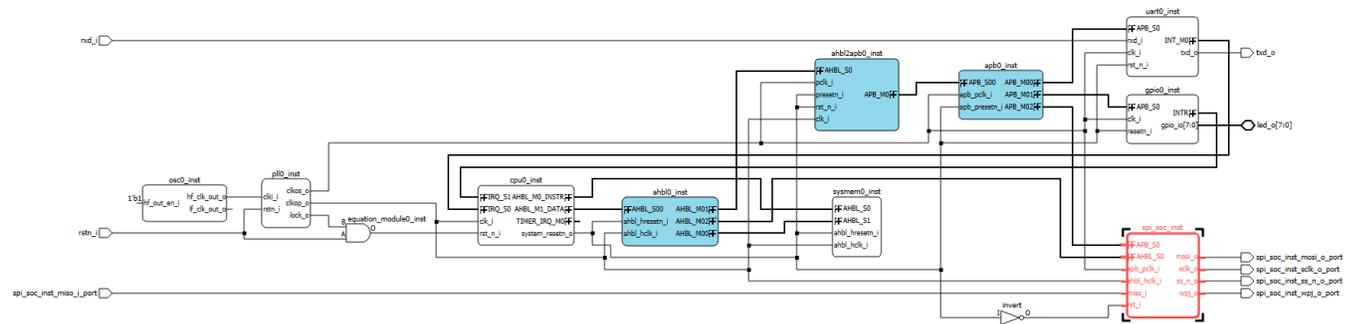

Figure 6.1. SPI Flash Memory Controller IP Example Design in SoC Project
Figure 6.1 shows how the SPI Flash Memory Controller IP is instantiated on the template. The AHB-L interface of the IP is connected to the AHB-L Interconnect system bus while the APB interface of the IP is connected to the APB Interconnect system bus. The SPI interface ports remain. Clock inputs connect from PLL output clocks. The reset input connects from the inverted system reset.
8. Connect the instantiated IP to the system (refer to Figure 6.1). From the default system components setting, modify the following: